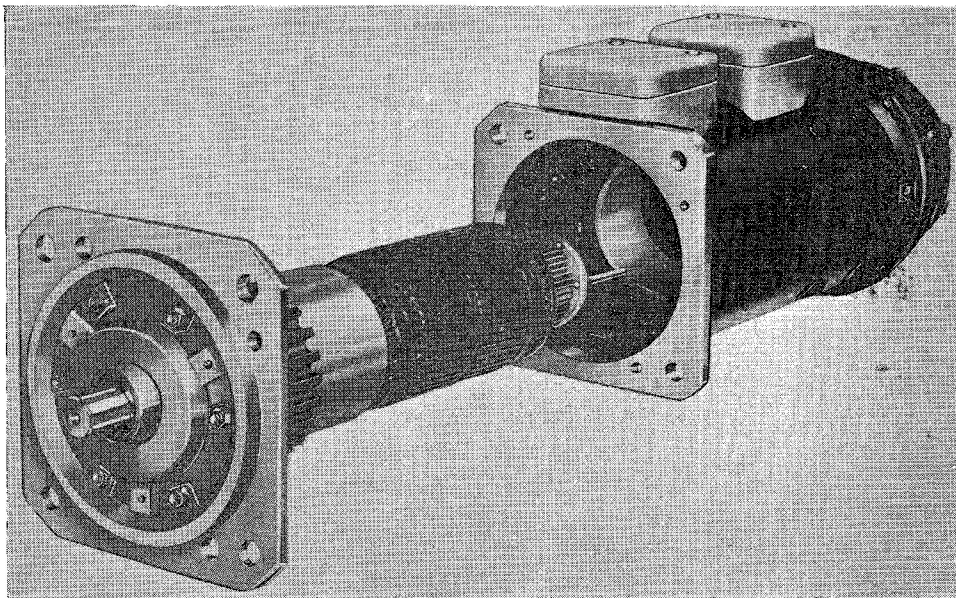

Fig. 1. Generator, Type RK
2. The a.c. rotor and d.c. armature are located on a common shaft (fig. 1).